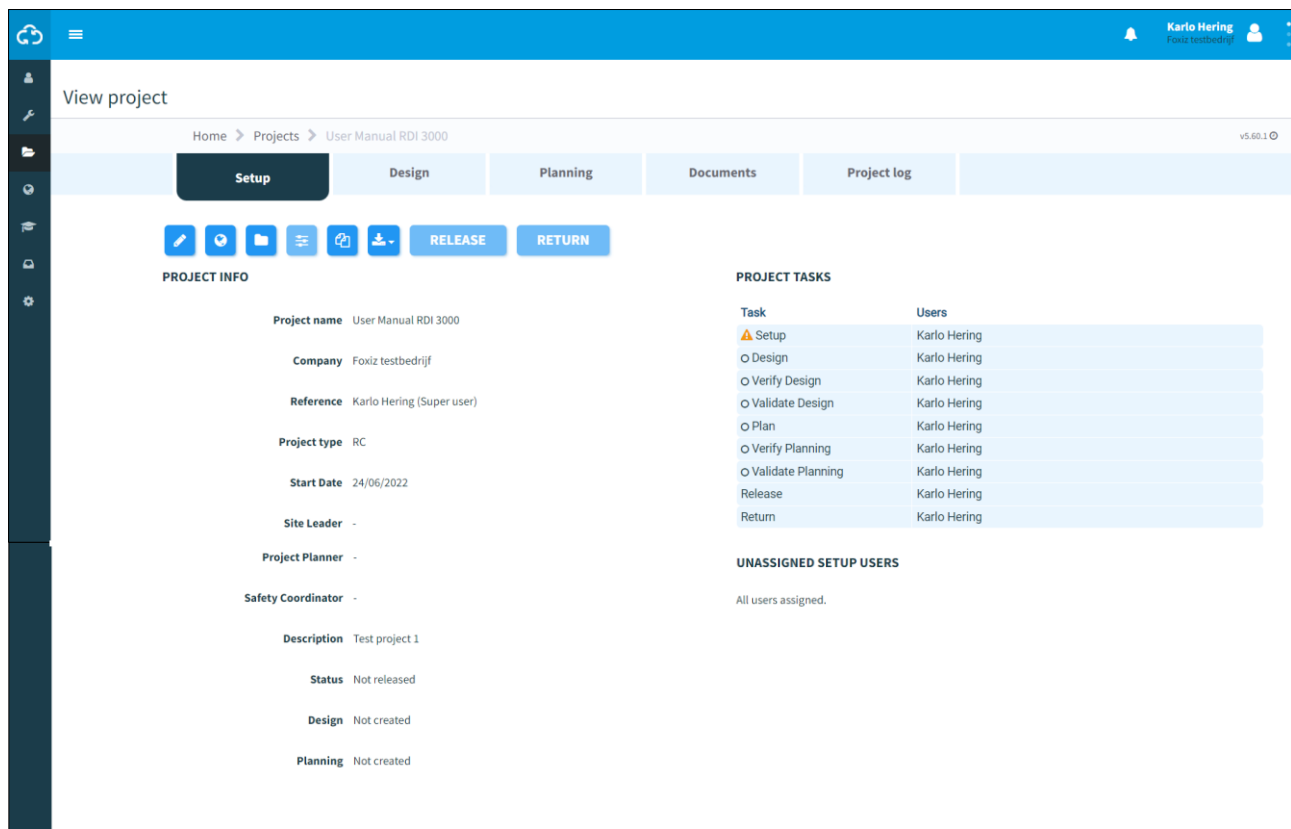

Figure 6-246: View project
1. Go to the page View project (Figure 6-246).